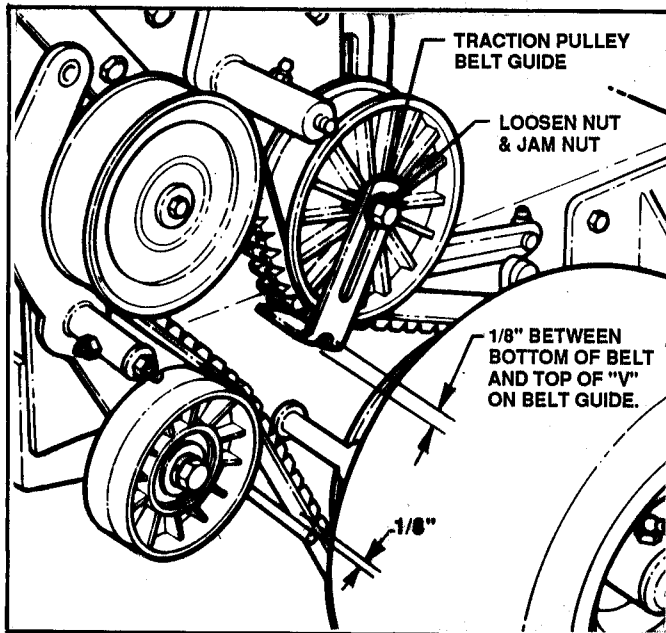

FIGURE 34
1. Loosen jam nut and nut on traction pulley bolt. See Figure 34.